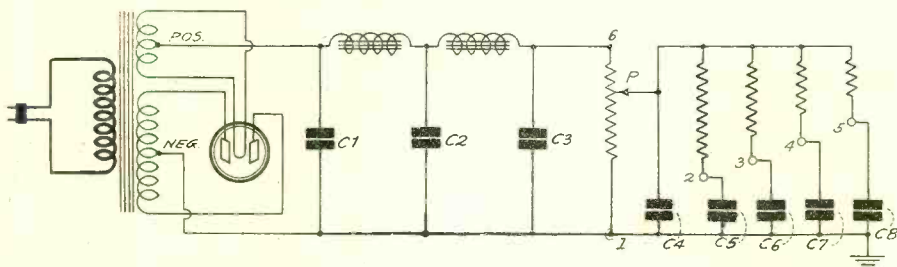

FIG. 2
One method of eliminating the cause of regeneration in the audio amplifier is by the use of resistance-capacity filters in each stage. These may be built in the amplifier, or they may be made a part of the B battery eliminator. Fig. 2 shows a modified eliminator having such filters built in. It is supposed to be used with a resistance coupled amplifier, but it is not limited to that. For a transformer coupled circuit other values of resistors in the filters would be used. That is the only difference.
In Fig. 2 there are eight bypass condensers, only one more than in Fig. 1. But they are very much more effective, especially those to the right of C3. Why are they more effective? Not because of the values used but because of the manner in which the audio amplifier is coupled to the voltage supply circuit.
In Fig. 2 only one detector or audio plate circuit is supposed to be connected to each of the binding posts numbered (2) to (5). If two or more are connected to any one of those binding posts, we slip back into the rut again. Suppose the plate coupling resistor is connected to point (2), the B plus